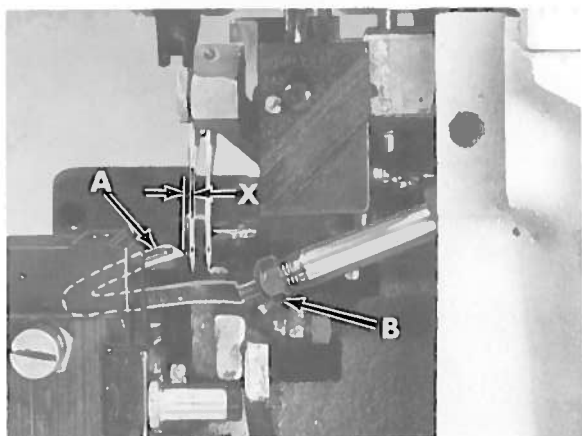

Fig. 8
With looper at extreme left end of travel, the distance from its point to centerline of needle; or left needle ("X", Fig. 8) should be 1/8 inch (3.2mm) on all Styles except WC, WK, WW, CWC, CWK, SWC, SWK, CSWC and CSWK. This dimension should be 1/16 inch (1.6mm) on Style WW and 7/64 inch (2.8mm) on Styles WC, WK, CWC, CWK, SWC, SWK, CSWC and CSWK. Looper gauge No. 21225-1/16, 21225-7/64 or 21225-1/8 could be used advantageously in checking this setting.
If adjustment is required, turn handwheel to position looper (A, Fig. 8) at extreme right and loosen clamp nut (B). Turn handwheel to position looper at extreme left end of travel and adjust same in or out of looper shaft to obtain specified dimension.